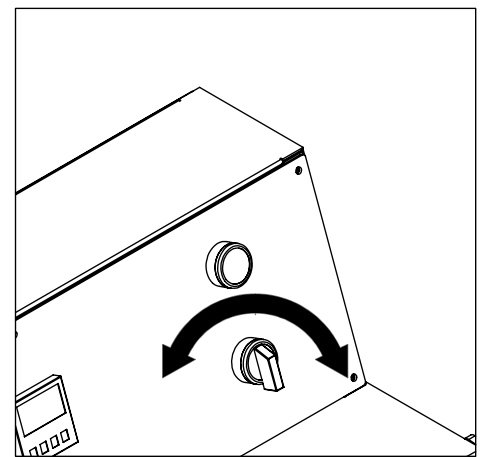

Figure 9
9. If you will work at 2. press; turn arrow direction clockwise. And bring the button to 2 position that is at pressing. (Figure.9)